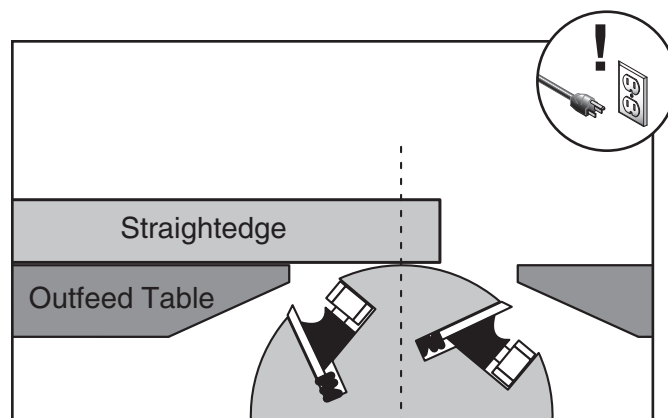

Figure 52. Adjusting outfeed table even with cutterhead body.
4. Place the straightedge on the outfeed table so it hangs over the cutterhead, and lower the outfeed table until the straightedge just touches the body of the cutterhead, as shown in **Figure 52** (rotate the cutterhead if necessary).
1. Place the straightedge on the outfeed table so it hangs over the cutterhead, and lower the outfeed table until the straightedge just touches the cutterhead body, as shown in **Figure 52** (rotate the cutterhead if necessary).